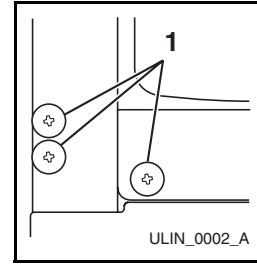

Figure 19
2. Remove metal hinge screw plugs (three each, top and bottom) (**Figure 19, 1**) from new hinge location. Do not discard.